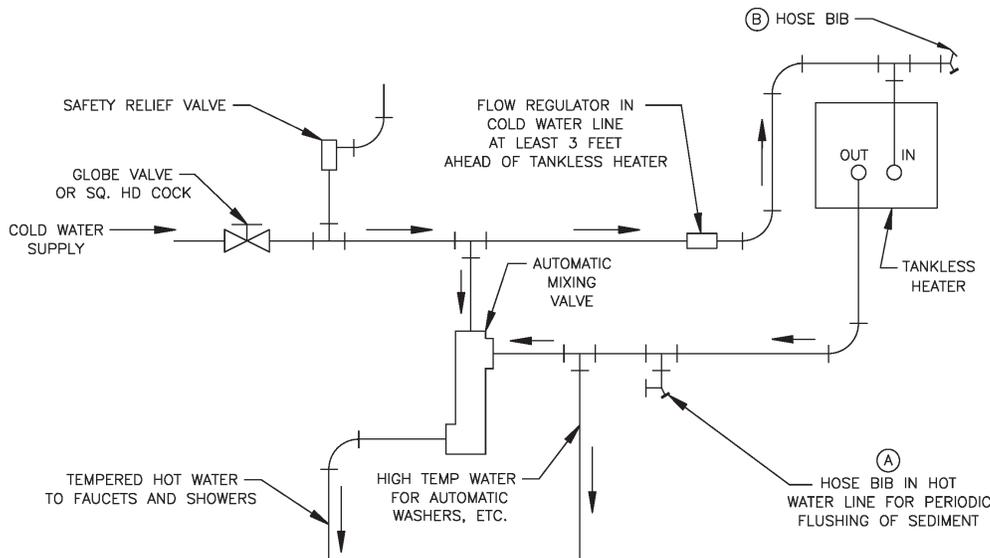

Figure 3-5: Schematic Tankless Heater Piping
- G. **CONNECT TANKLESS HEATER PIPING AS SHOWN IN FIGURE 3-5.** See Table 3-6 for Tankless Heater Rating.
dishwashers and automatic washers is possible by piping the hot water from the heater prior to entering the mixing valve. The mixing valve should be "trapped" by installing it below the cold water inlet to heater to prevent lime formation in the valve. Refer to Figure 3-5.